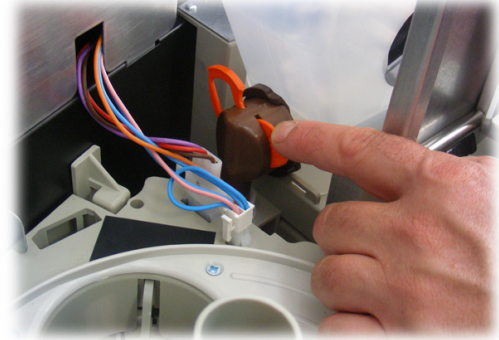

Fig. 89
- turn the container locking lever clockwise (Fig. 89);